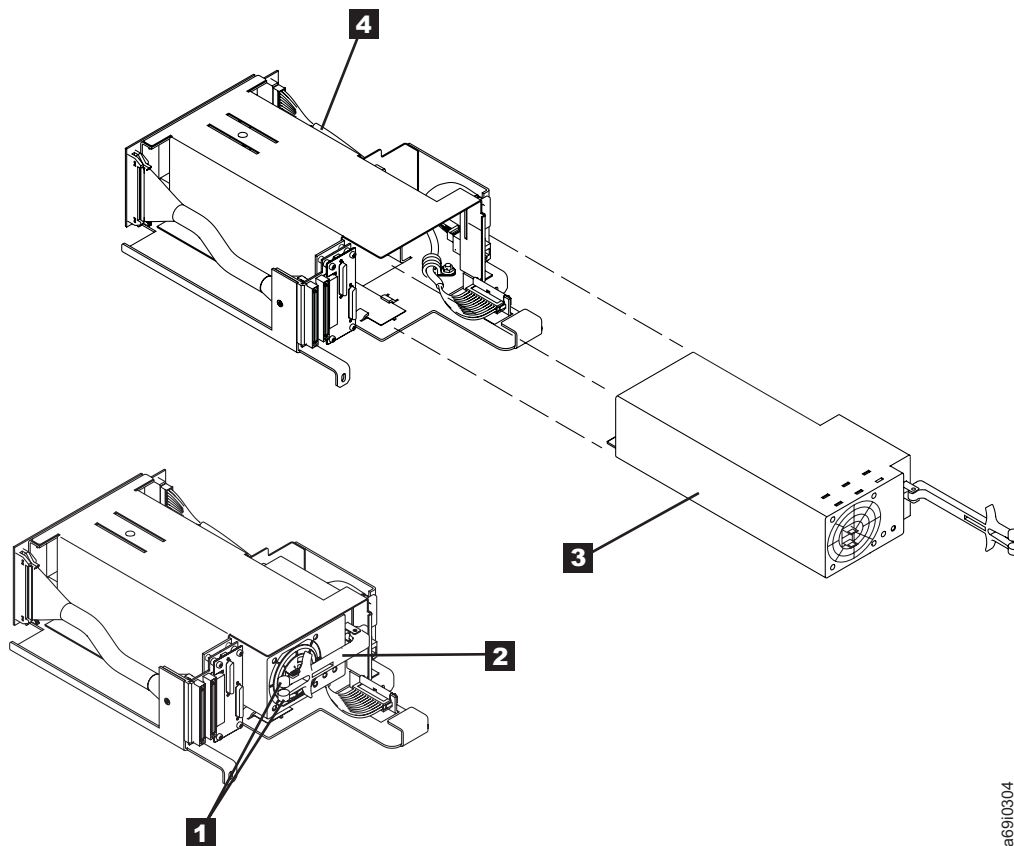

Figure 70. Removing or Replacing a Redundant Power Supply - Models L32 or D32 Hot Swap
2. Use your thumb and index finger to pinch together the locking arms (see **1** in Figure 70) of the power supply.
7. Carefully slide the power supply canister (**3** in Figure 70) into the fixed tray assembly **4**.